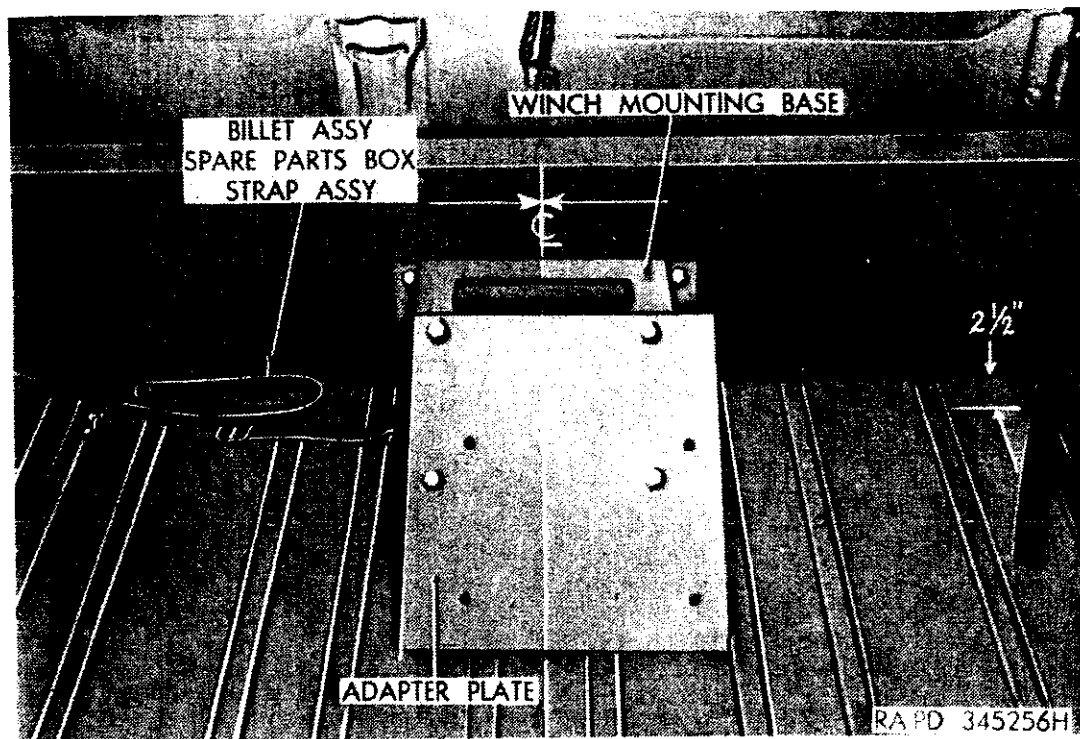

Figure 87. Superseded installation of winch mounting base assembly, adapter plate, and spare parts box strap assemblies.
*e.* Remove spare parts box strap assemblies, billet assembly, adapter plate, and winch mounting base assembly (fig. 87) from front bed of truck.